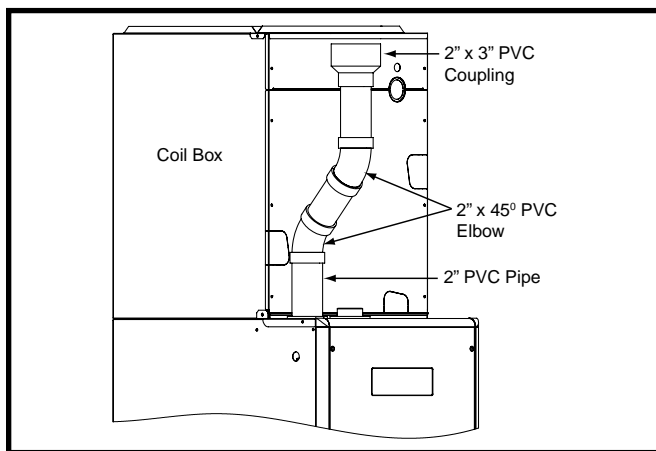

Figure 22. Optional PVC Pipe Installation
- If the size of the PVC flue needs to be increased from 2" to 3", two, 2" x 45° PVC elbows may be used to achieve the clearances needed between the coil box and the 2" x 3" coupling. See Figure 22 (page 22).